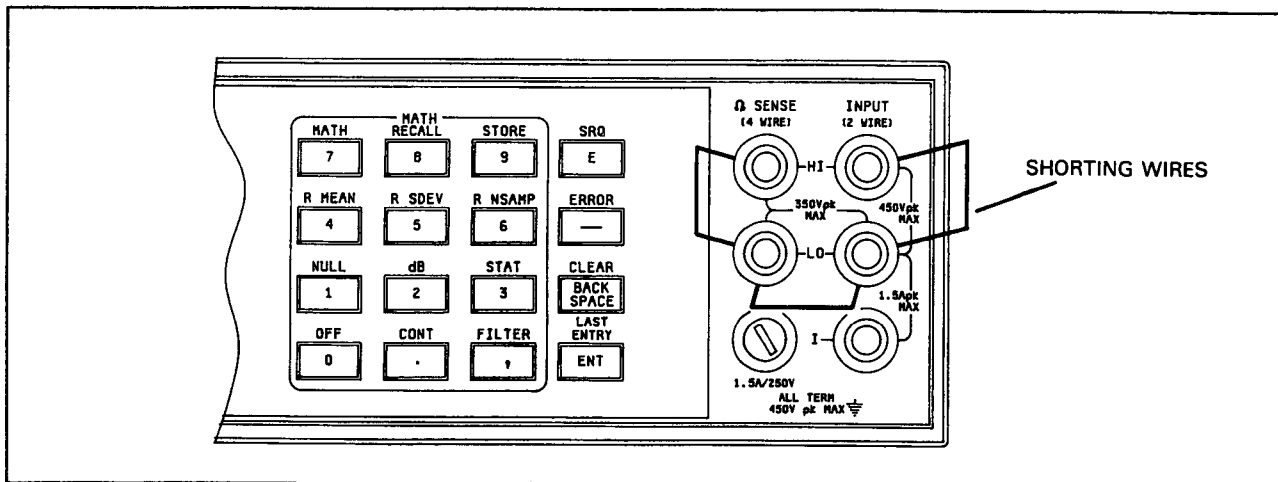

Figure 5-1. Input Connections for Four-Wire Ohms Offset Calibration
5-32. **Equipment Required.** A low thermal short (copper wire) is required for this procedure. (Refer to Figure 5-1).
b. Connect the short across the Front Panel HI and LO Input Terminals and the Ω Sense HI and LO terminals as shown in Figure 5-1.